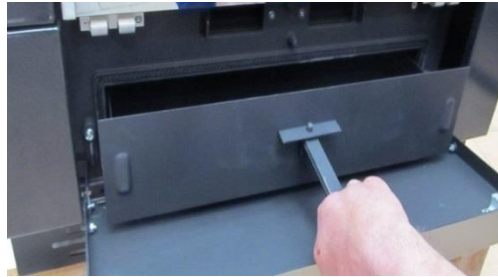

Fig 7
The ash tray (Figure 7, pos. 9) should be emptied regularly before each furnace firing. You need to clean the grill once or twice a week. In case of clogging of the vents with slag or other combustion residue, they must be removed immediately. When firing, avoid the formation of soot on the glass. Soot is formed during combustion for the following reasons: